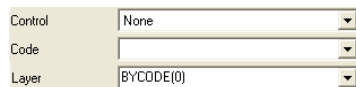

Figure 5-28. Layer Determination when Applying Codes
- If the point has multiple codes, setting Layer to “BYCODE” forces it to belong to multiple layers (Figure 5-28).
- If the point has no code, setting Layer to “BYCODE” forces the point to belong to Layer 0 (zero) (Figure 5-28).